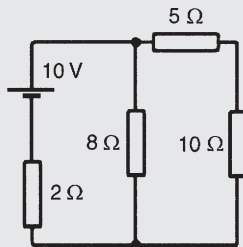

Figure 13.54
**Problem 13.** Use Norton's theorem to determine the current flowing in the  $10\Omega$  resistance for the circuit shown in Fig. 13.54.